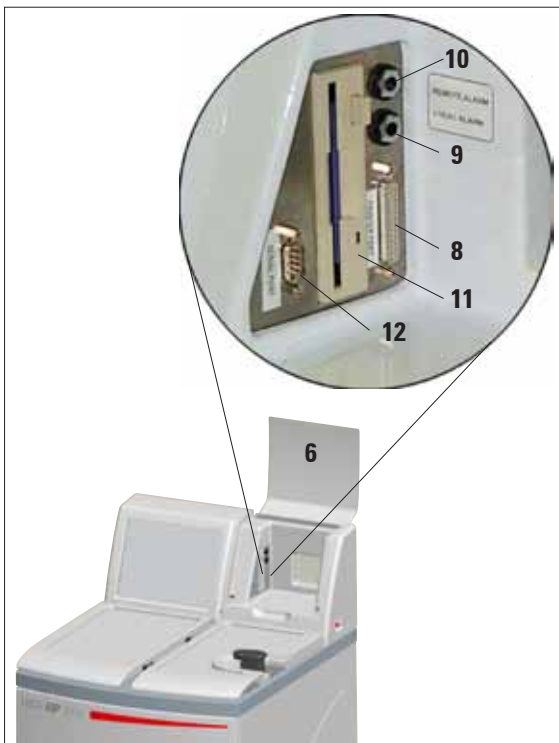

Fig. 8
- Swing the door of the instrument console (6) upwards.
- Connect the printer to the printer port (8) using a Centronics standard cable (Fig. 8).
If required, connect the local or remote alarm system to the appropriate sockets (34) (Ø 6.3 mm) using the stereo jack provided (9, 10 in Fig. 8).